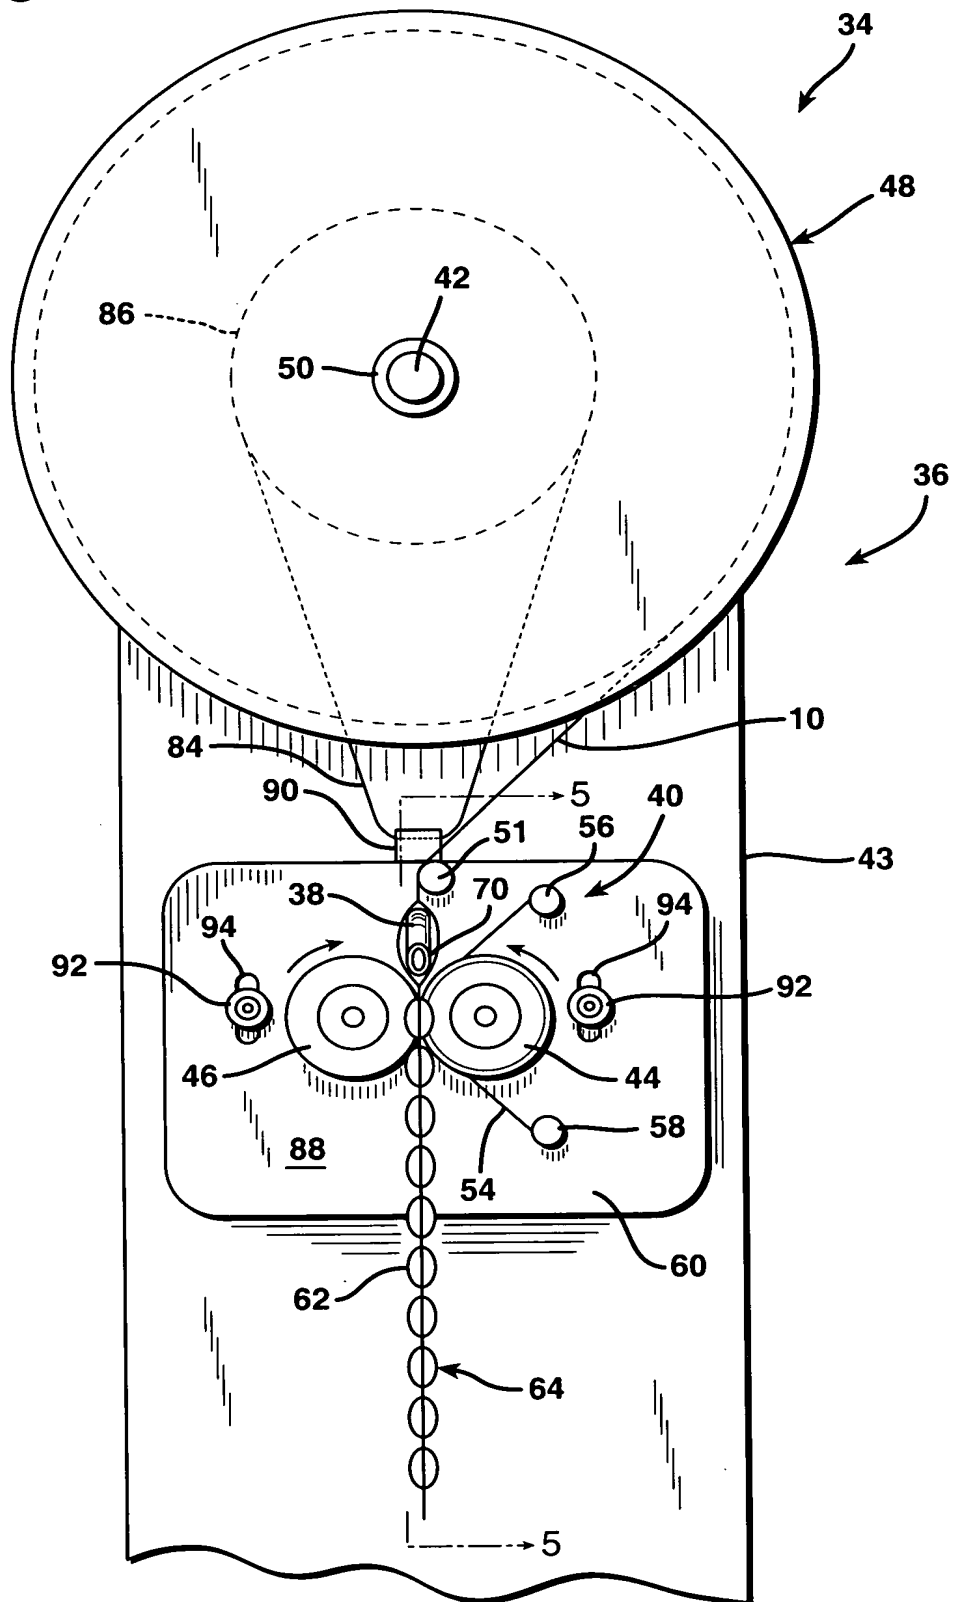

FIG. 2
FIG. 2 is a schematic diagram of a machine, likely a textile processing machine, showing a vertical frame structure. The machine is mounted on a base with two wheels (76) and a motor (78). A vertical shaft (43) runs through the center. A large roller (48) is at the top, and a smaller roller (50) is below it. A material (34) is fed from the top, passes through the rollers, and then through a series of rollers (36, 10, 16, 81, 32, 62, 68, 64, 68, S, S). The material is then processed by a series of rollers (52, 24, 30, 33) and finally passes through a roller (66) at the bottom. The machine is driven by a motor (78) connected to a shaft (76) and a pulley system (90, 92, 60). A dashed line (38) indicates the path of the material. A vertical arrow (82) indicates the direction of movement. A horizontal arrow (84) indicates the direction of movement. A vertical arrow (86) indicates the direction of movement. A horizontal arrow (88) indicates the direction of movement. A vertical arrow (90) indicates the direction of movement. A horizontal arrow (92) indicates the direction of movement. A vertical arrow (94) indicates the direction of movement. A horizontal arrow (96) indicates the direction of movement. A vertical arrow (98) indicates the direction of movement. A horizontal arrow (100) indicates the direction of movement.